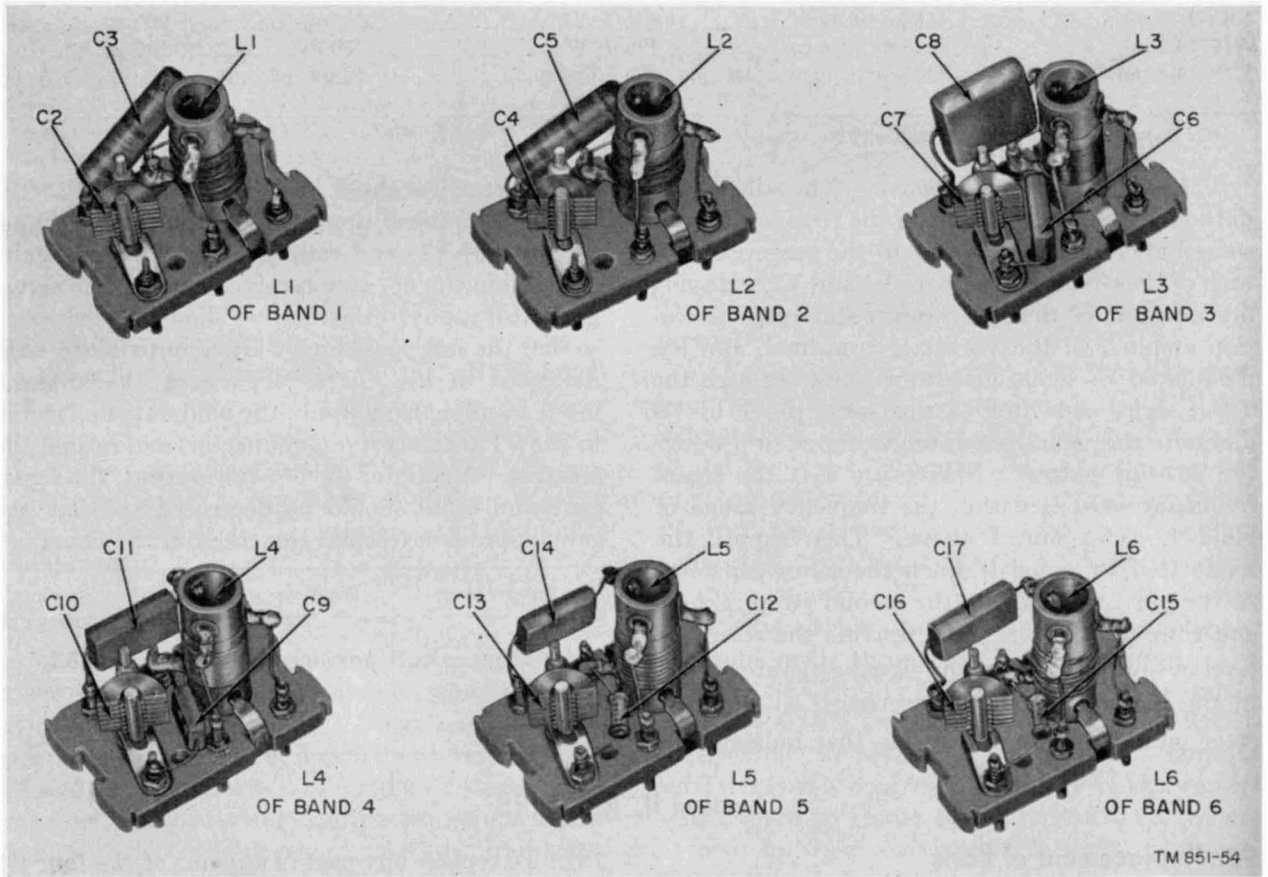

Figure 76. Radio receiver, all types, antenna r-f tuner subassemblies for bands 1 through 6.
a. *R-F Tuner Subassemblies* (figs. 76 through